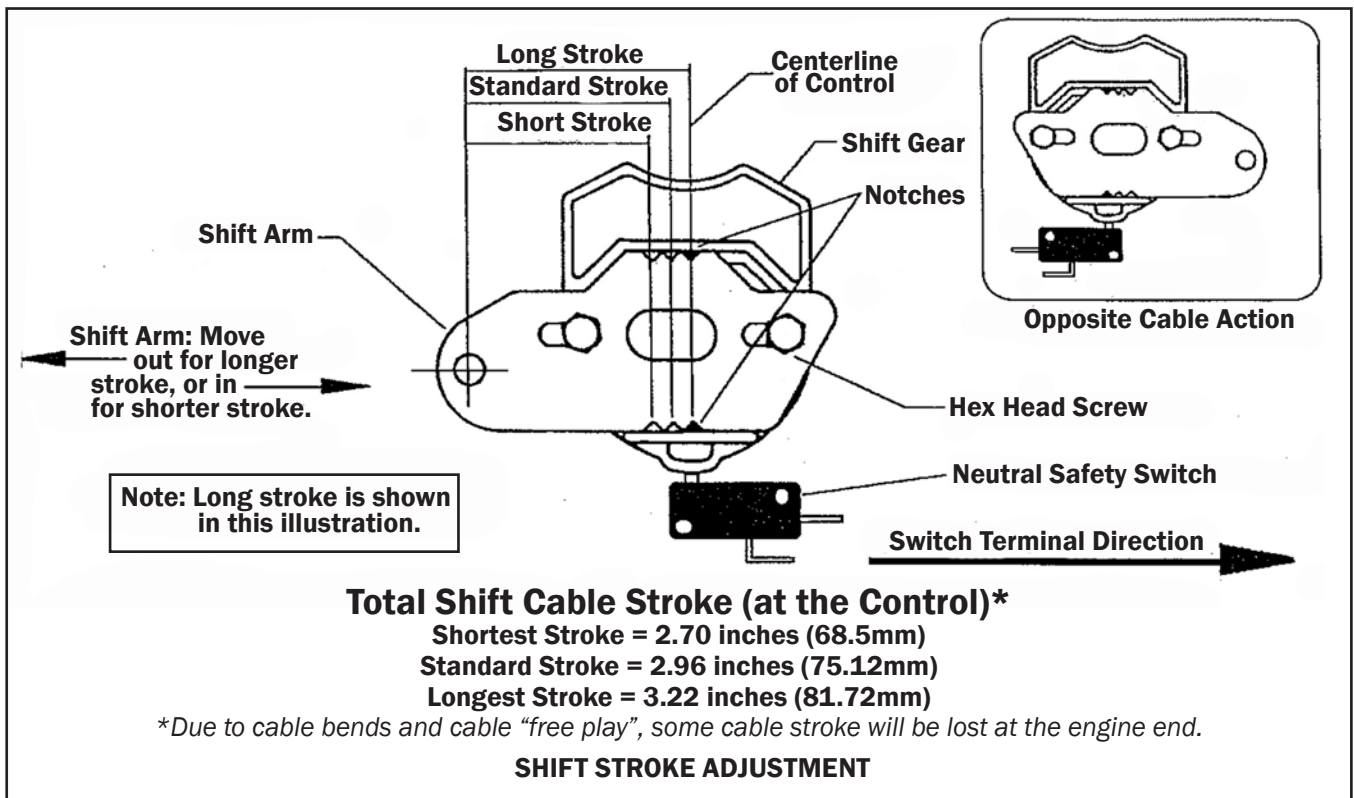

Figure 2.
- *Adjustable shift stroke to accommodate most transmission applications (refer to Figure 2).*
- *Two (2) each SeaStar Solutions 3300/33C or Xtreme™ Cables. One for throttle and one for shift for each engine.*
The Shift Arm is factory-set for standard travel (center notch). Refer to Figure 2.
**STEP 1.** Loosen the two (2) hex head cap screws so the Shift Arm can be lifted to clear the notches
**STEP 2.** Reposition the Shift Arm to the desired stroke. Be sure the notches are properly engaged before tightening the screws. Refer to Figure 2.